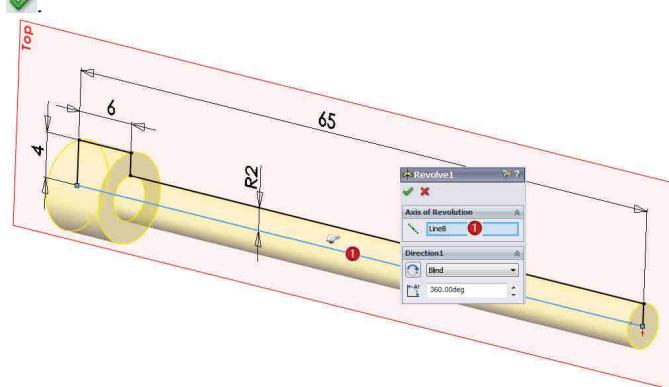

Fig. 2.35
**1** Trasare contur 65x4 Comanda Sketch – Fig. 2.35 – plan Top.
**2** Revoluție contur 65x4: comanda Revolved Boss/Base – Fig. 2.35 - selectie axă de revoluție ① / Blind / 360° / ✓.
**1** Sketching of the 65x4 contour: The Sketch command – Fig. 2.35 – Top plane.
**2** Revolving the 65x4 contour: the Revolved Boss/Base command - Fig. 2.35 – select axis of revolution ① / Blind / 360° / ✓.